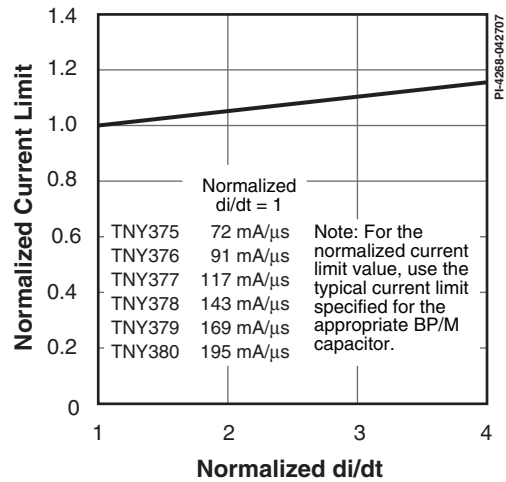

Figure 24. Current Limit vs. di/dt .
- F. For current limit at other di/dt values, refer to Figure 24. Measurements made with device self-biased.